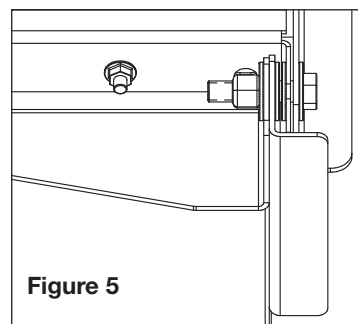

Figure 5
10. With all hinge components installed, place a 1/2" washer on the 1/2" bolt and secure the nylon lock nut. Be sure that it is not too tight to where it is difficult to open the hinge, this may also result in too much stress on hinge components. **Figure 5** shows a completed hinge.